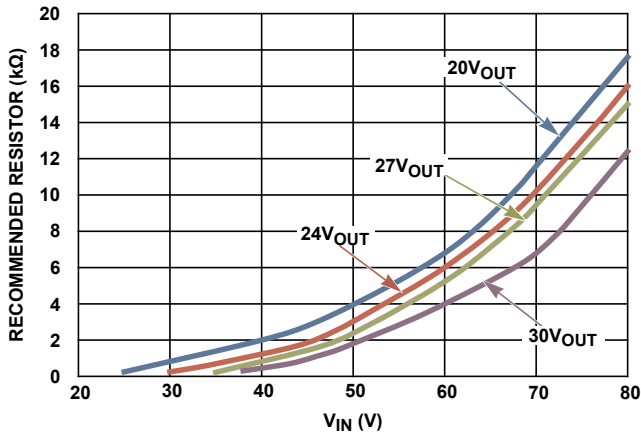
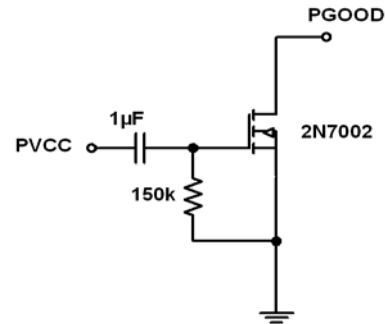

FIGURE 23. RECOMMENDED EXTERNAL RESISTOR VALUE FROM BOOT TO PVIN
FIGURE 25. PGOOD DELAY CIRCUIT
The internal bootstrap diode connected to the PVCC pin provides charge for the internal bootstrap capacitor. For above $12V_{OUT}$ applications, a resistor connecting between BOOT pin and V_{IN} pin is recommended for certain conditions. Refer to Table 3. This resistor provides additional bootstrap charge introduced from V_{IN} , which can ensure the gate drive circuit functions properly at very light load. See Figure 23 for the recommended external resistor values at $20V_{OUT}$, $24V_{OUT}$, $27V_{OUT}$, and $30V_{OUT}$ conditions. A minimum 0.25W power rating is recommended for this resistor.
For $>12V_{OUT}$ applications where V_{IN} power-up/down (module self enable/disable) is required and PGOOD signal is utilized, a PGOOD delay circuit and a $1k\Omega$, $1W$ rating dummy load resistor are recommended. The PGOOD delay circuit is shown in Figure 25. Note when the dummy load resistor is used, the resistor between V_{IN} and BOOT (Figure 23) is no longer required. During V_{IN} power-up (module self enable) for $>12V_{OUT}$ applications at very light load current, without such a delay circuit, V_{OUT} may have a drop after initially reaching the target due to the lack of bootstrap charge. With such a delay circuit, the PGOOD signal can be delayed for 250ms. For applications of $\leq 12V_{OUT}$, the PGOOD delay circuit is not required.
- Refer to Figure 23 for V_{IN} -BOOT resistor (R_{BOOT}) value.